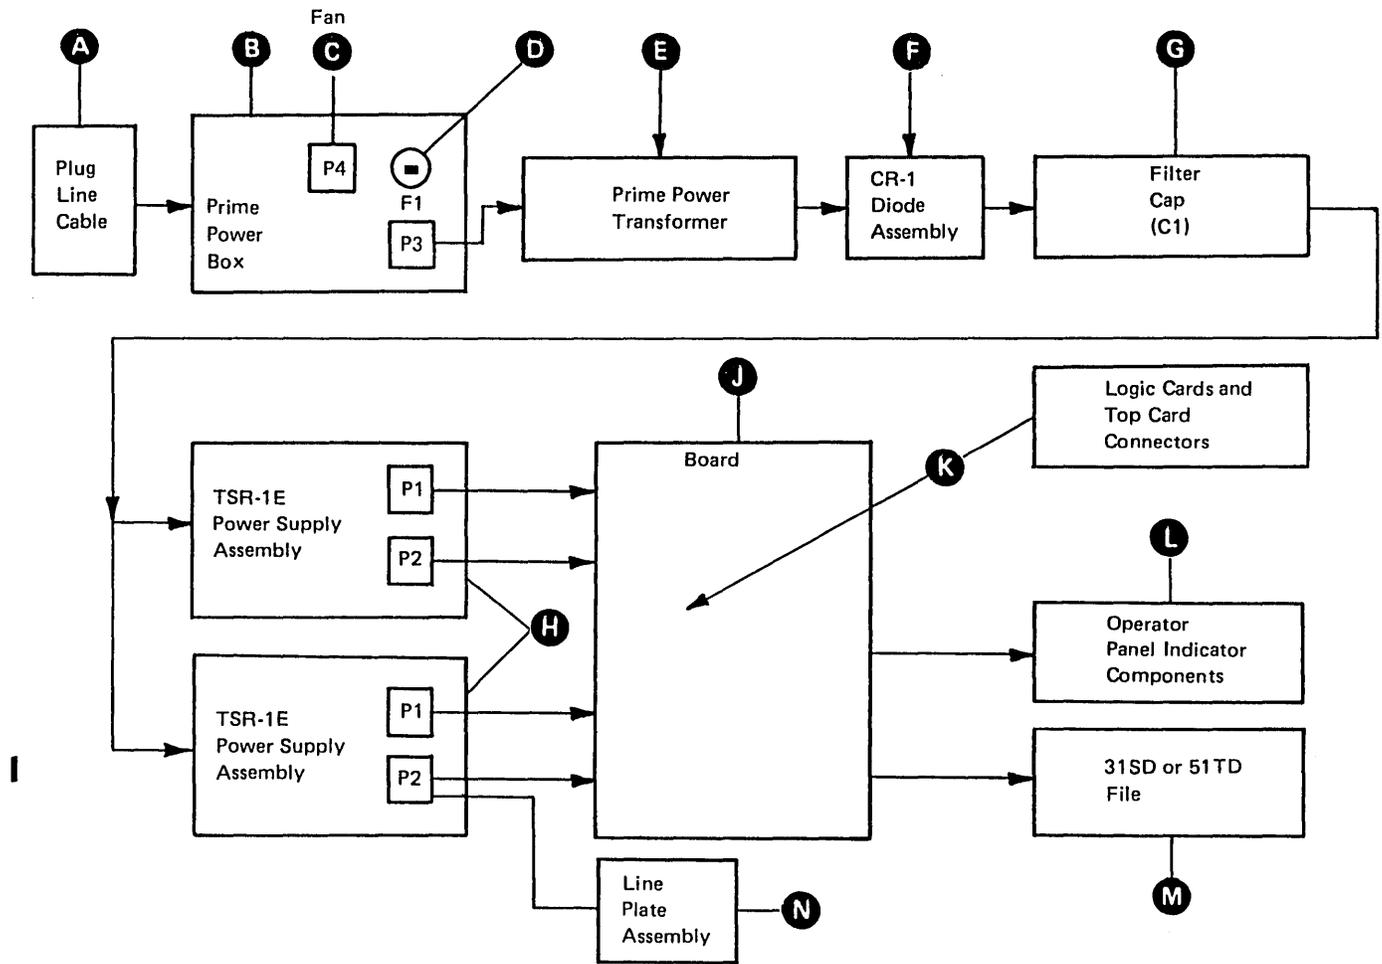

Figure A-3. Field Replaceable Units (FRUs)
- Figure A-3. Field Replaceable Units (FRUs) A-4